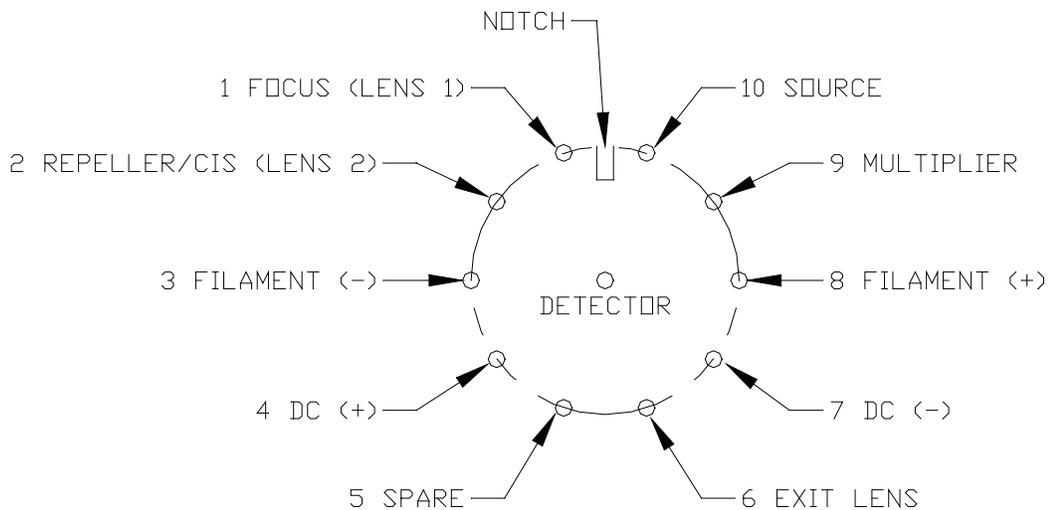

Figure 4-9.
- The check should be performed on the pins on the atmosphere side of the unit (Figure 4-9).